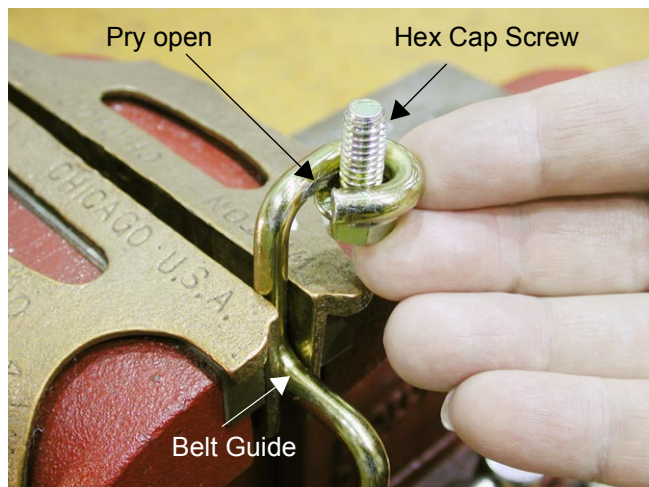

Figure 63
- 15.7. Place the belt guide (1769522) in a vise and using a cold chisel, open the eyelet until the hex cap screws can pass through the opening. See Figure 63.